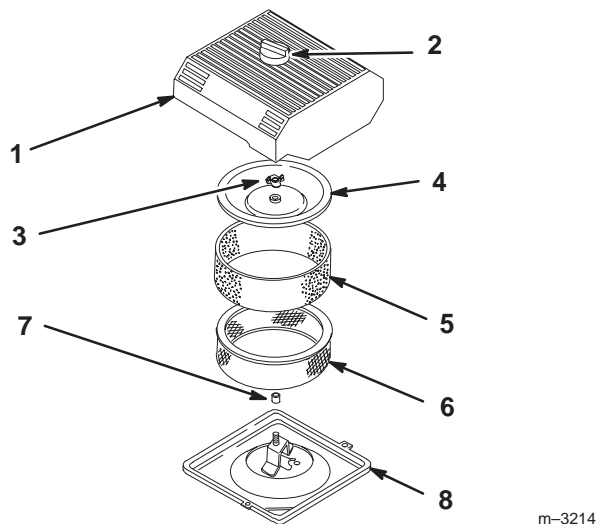

Figure 19
2. Clean around the air cleaner to prevent dirt from getting into the engine and causing damage (Fig. 19).
3. Loosen the knob on the air cleaner cover and remove the cover (Fig. 19).
4. Carefully slide the foam element off the paper element (Fig. 19).
5. Unscrew the cover nut and remove the cover and paper element (Fig. 19).
1. Carefully slide the foam element onto the paper air cleaner element (Fig. 19).
3. Install the cover nut finger-tight against the cover (Fig. 19).
4. Install the air cleaner cover and knob (Fig. 19).